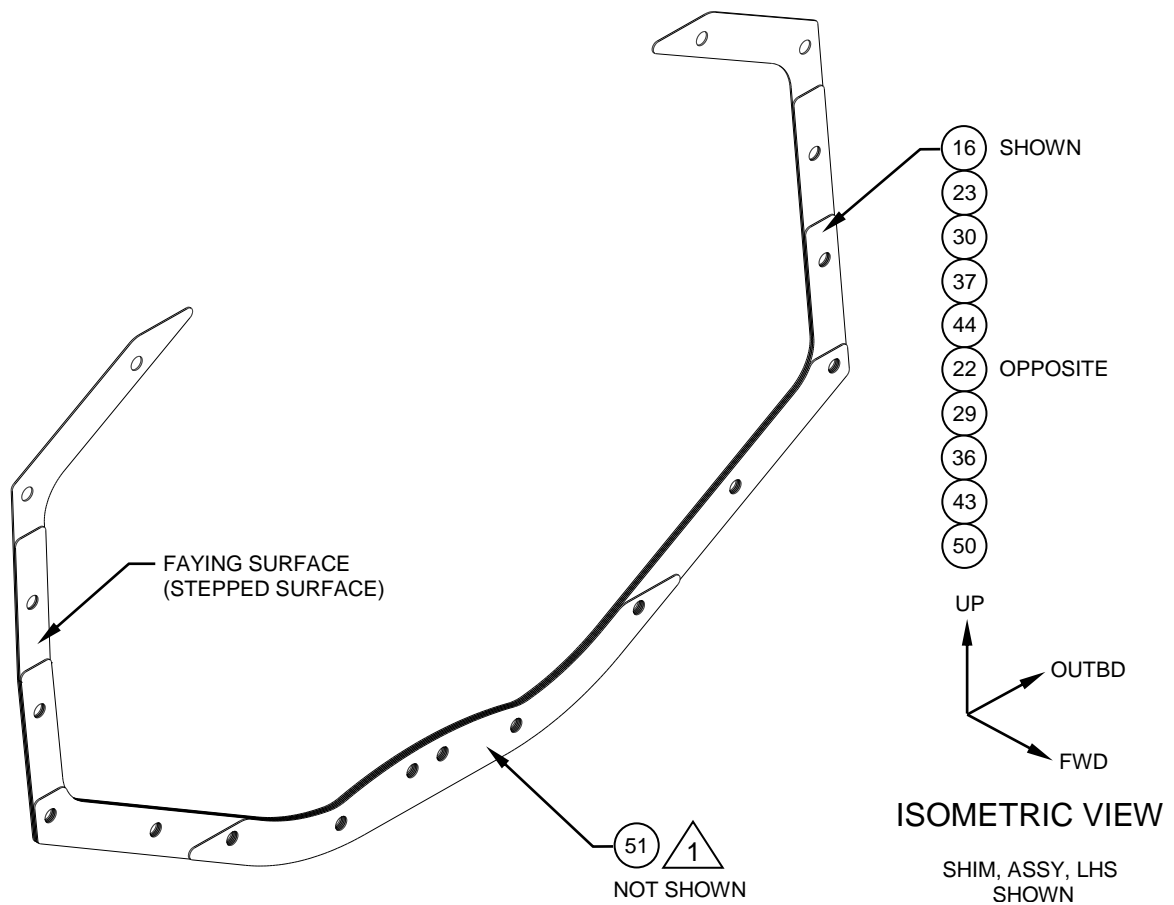

Figure 2
4. Prepare the Shim, Assy, LHS (Item 16, 23, 30, 37, or 44 as determined by appendix A) and Shim, Assy, RHS (Item 22, 29, 36, 43, or 50 as determined by appendix A) by cleaning the faying surfaces (stepped surfaces) with methyl ethyl ketone (MEK). Reference Figure 2.
10. Apply the Sealant (Item 51) to the faying surface (stepped surface) of the Shim, Assy, LHS (Item 16, 23, 30, 37, or 44 as determined by appendix A) and the LHS of the AFT Firewall (100% coverage, Max .050" total thickness). Reference Figures 2 & 3.
12. Apply the Sealant (Item 51) to the faying surface (stepped surface) of the Shim, Assy, RHS (Item 22, 29, 36, 43, or 50 as determined by appendix A) and the RHS of the AFT Firewall (100% coverage, Max .050" total thickness). Reference Figures 2 & 3.